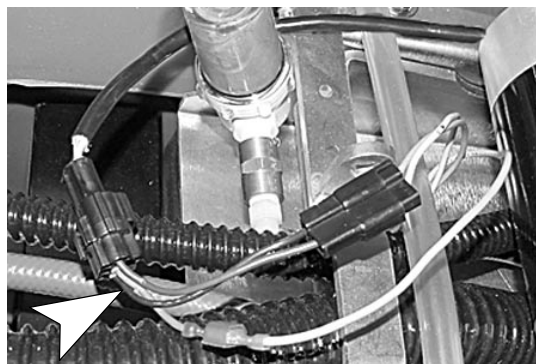

Fig. 14
6. Connect the transaxle wiring to the machine using the transaxle wire adapter supplied with the kit (Figure 14).